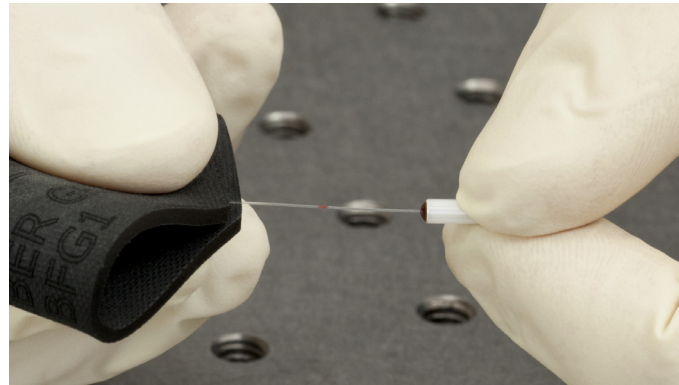
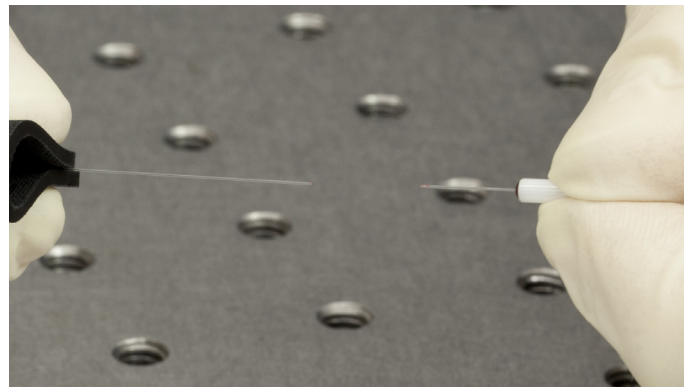

Figure 2: Pulling the Fiber with the BFG1 Bare Fiber Gripper
Figure 3: Cleaved Fiber after Pulling
4. Hold the cleaving tool perpendicular to the fiber and gently score the fiber as shown in Figure 2 to the right. Do not apply excessive pressure. The fiber should not break off at this point.
5. Hold the cannula in one hand, and grip the fiber end with a bare fiber gripper in the other end as shown in Figure 2. Pull the fiber straight back until the fiber cleaves as shown in Figure 3.